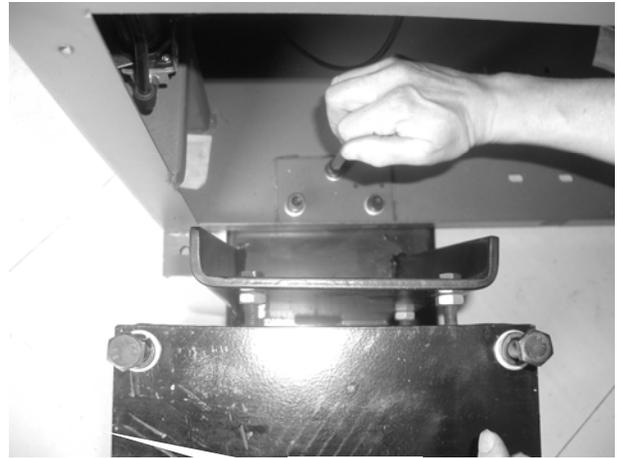

FIG 30
6.1.3 Push the platform of the base plate of the base assembly into the body through base plate on the left-back side of the body. Align the thread hole to the reinforcement hole and use the bolt and washer to fix. (fig30).